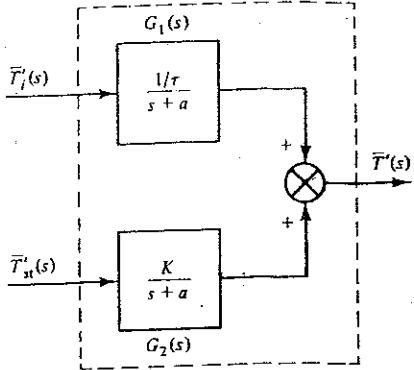

FIGURE 3
3. Find the mathematical model (in time domain) of a process for the block diagram shown in Fig 3. [3M]